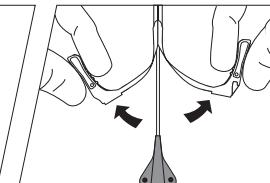

Figure 6
- Withdraw peel-away sheath over catheter until sheath hub and connected portion of sheath is free from venipuncture site. Grasp tabs of peel-away sheath and pull away from the catheter (refer to Figure 6), while withdrawing from vessel until sheath splits down its entire length.